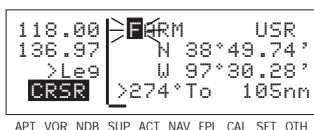

Figure 4-74
1. From any supplemental waypoint (SUP) page, turn on the cursor (CRSR). It will flash over the first character in the waypoint identifier field (figure 4-74).